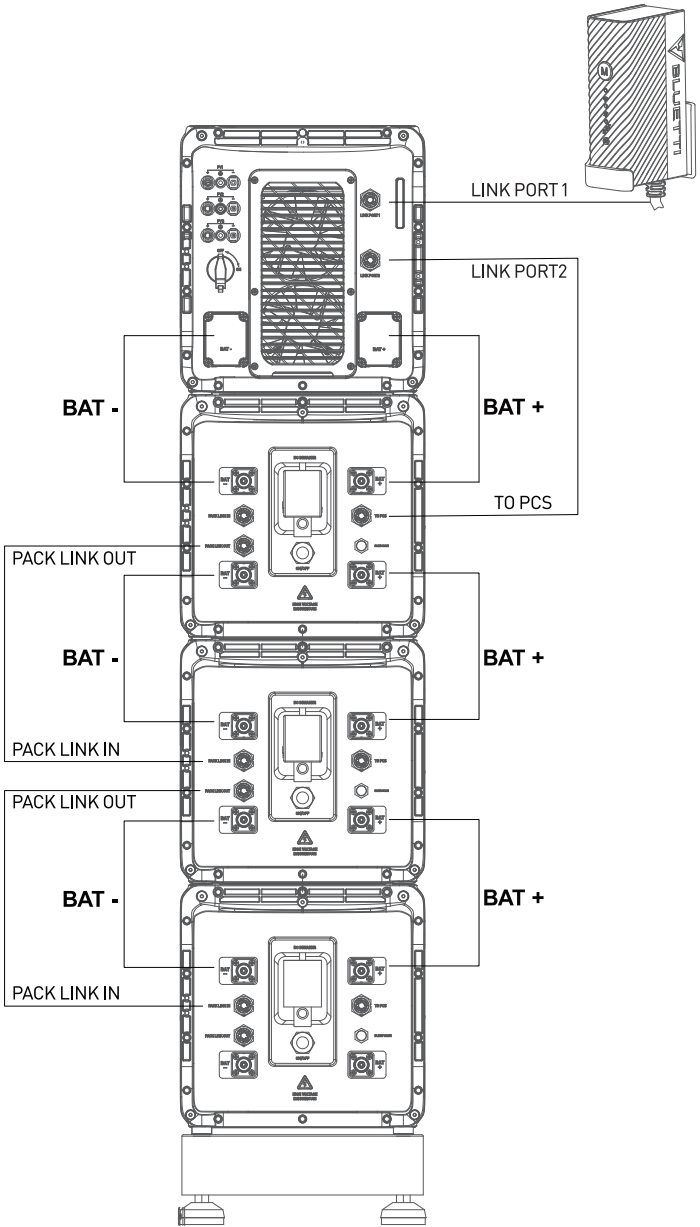

Figure 6-8
**Note:** For how to integrate multiple B500s to the EP760 ESS, please refer to Figure 6-8.